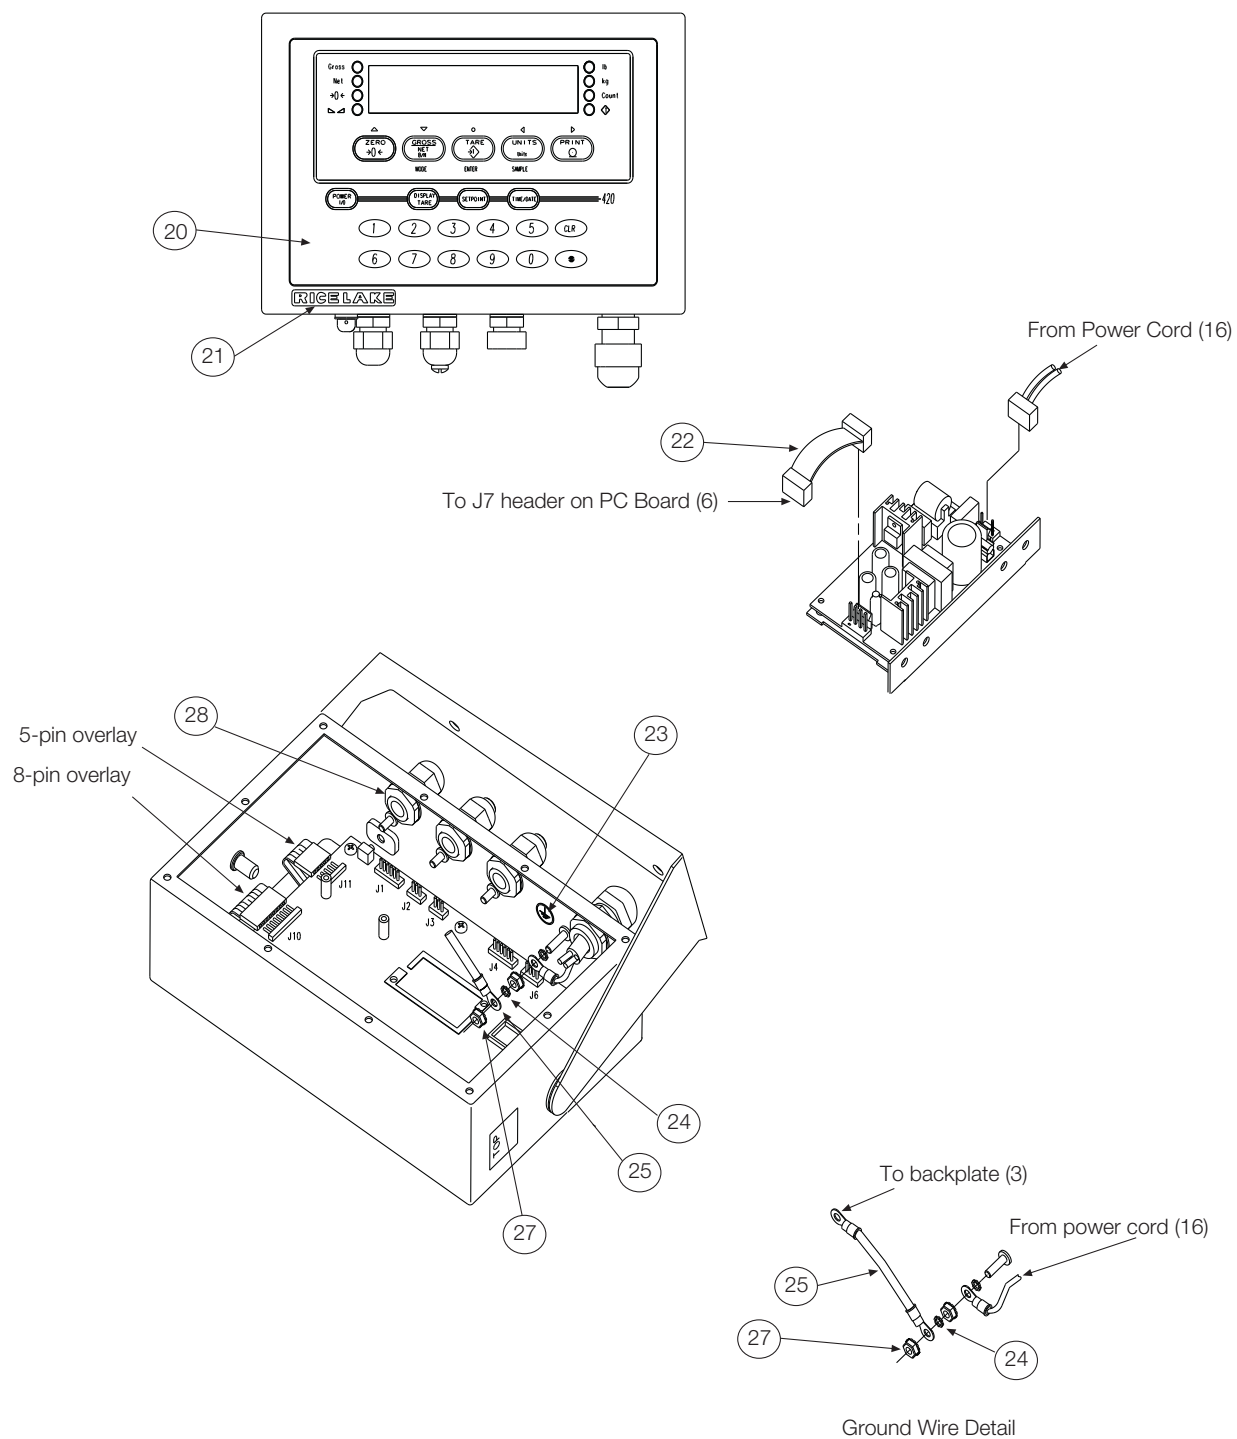

Figure 2-8. 420 Plus Overlay and Power Supply
Table 2-6 lists replacement parts for the *420 Plus*, including all parts referenced in Figures 2-8 and 2-9.
| 20         | 84397 | Overlay panel (1)                           | Figure 2-8 13 |